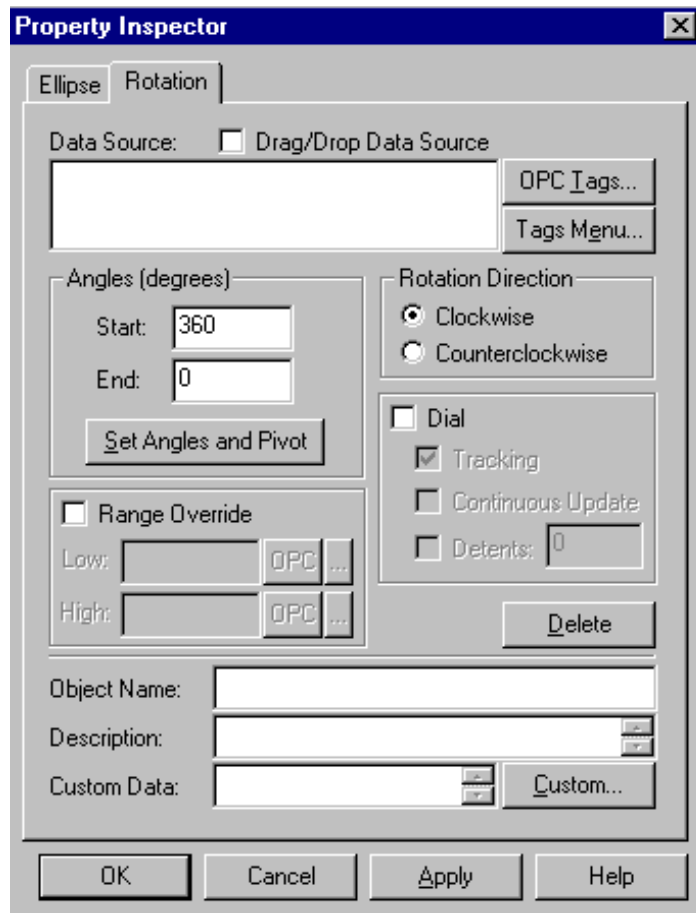

Figure 11-5: Property Inspector Dialog Box – Rotation Tab
2. On the Dynamics menu, select Actions > Rotation. The Property Inspector dialog box appears with the Rotation tab Figure 11-5.